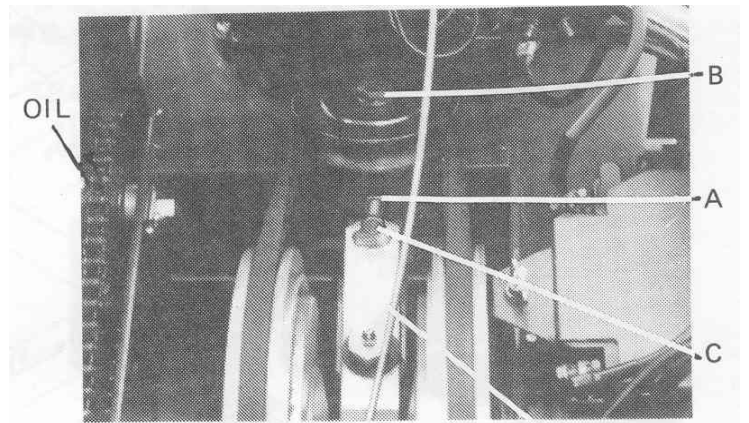

Fig. 23
2. Centralise engagement lever (D) with friction plates between drive pulleys, Fig.23
1. Loosen locknut (A) Fig.23
2. Loosen pivot bolt (B) Fig.23
3. Adjust belt tension using bolt (C) Fig.23
4. Re-tighten locknut (A) and pivot bolt (B)